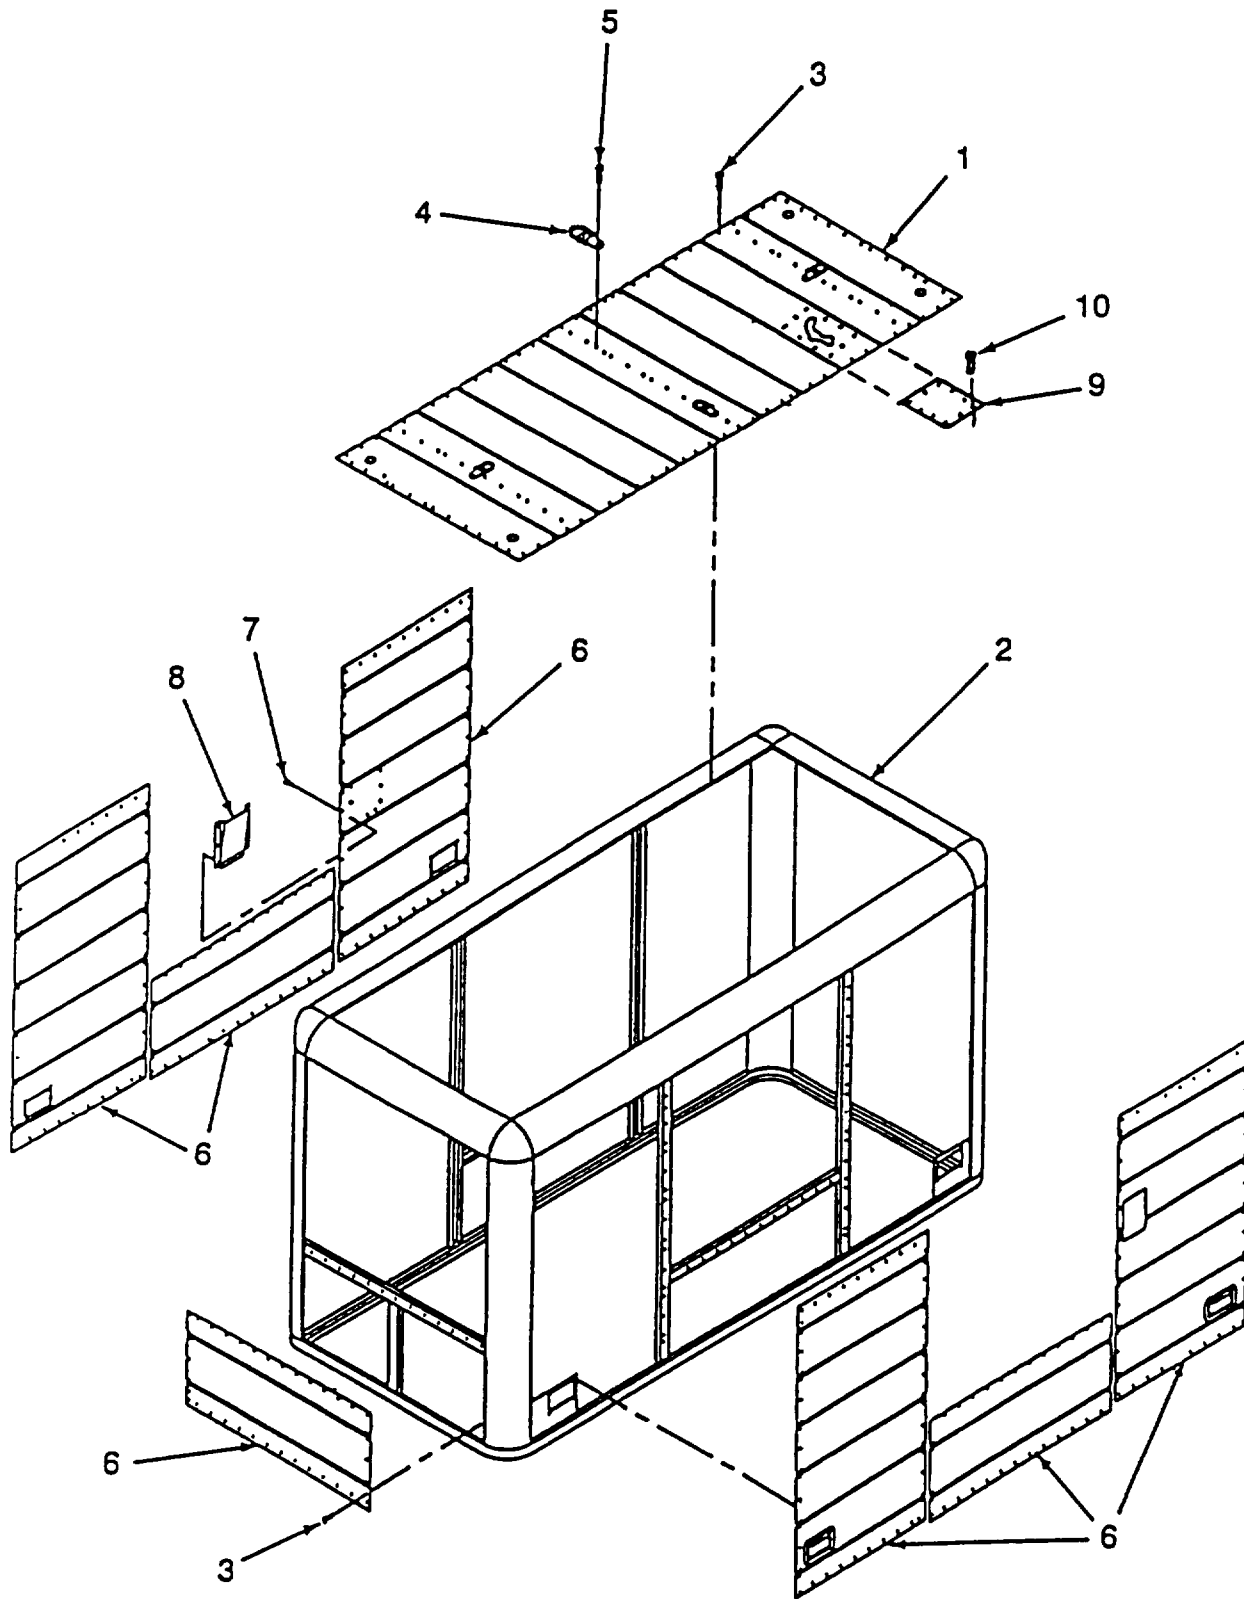

Figure 4-3. Panels
- a. Removal. (Refer to Figure 4-3).
- (1) Remove top panel (1) from enclosure frame (2) by drilling out all rivets (3) using electric drill with 3/16" drill bit.
- (2) Remove four latch retainer D-rings (4) by drilling out rivets (5).
- (3) Remove all other panels (6) by drilling out rivets (7) around outside edges of panels.
- (4) Remove storage pocket (8) by drilling out rivets (7)..